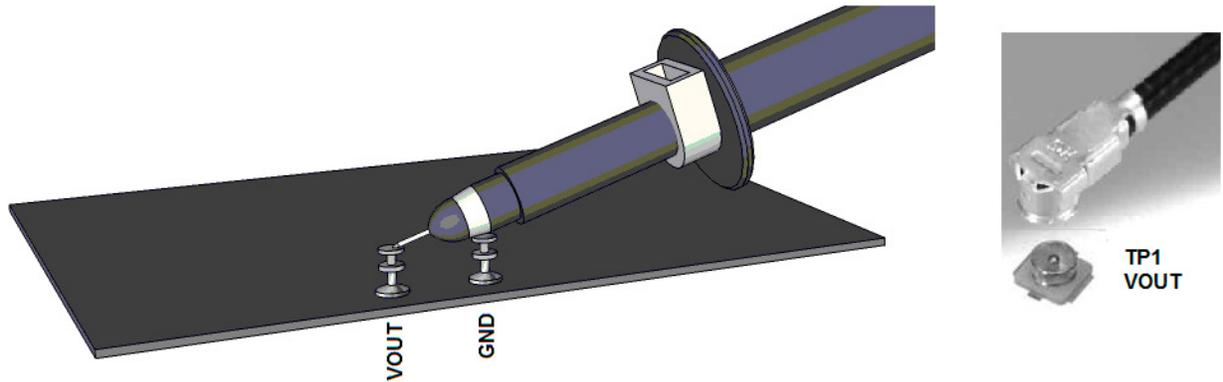

Figure 2. Technique for Measuring Output Ripple and Step Response
4. Connect an oscilloscope voltage probe as shown in Figure 2 in parallel with VM2. Set Channel to AC coupled, voltage scale to 20mV and time base to 10 μ s. Observe the V_{OUT} ripple voltage.
NOTE: Measure the output voltage ripple by touching the probe tip directly across the output turrets or to TP1 as shown in Figure 2. TP1 is designed for a 50 Ω coax cable to reduce any high frequency noise that might couple into the oscilloscope probes.